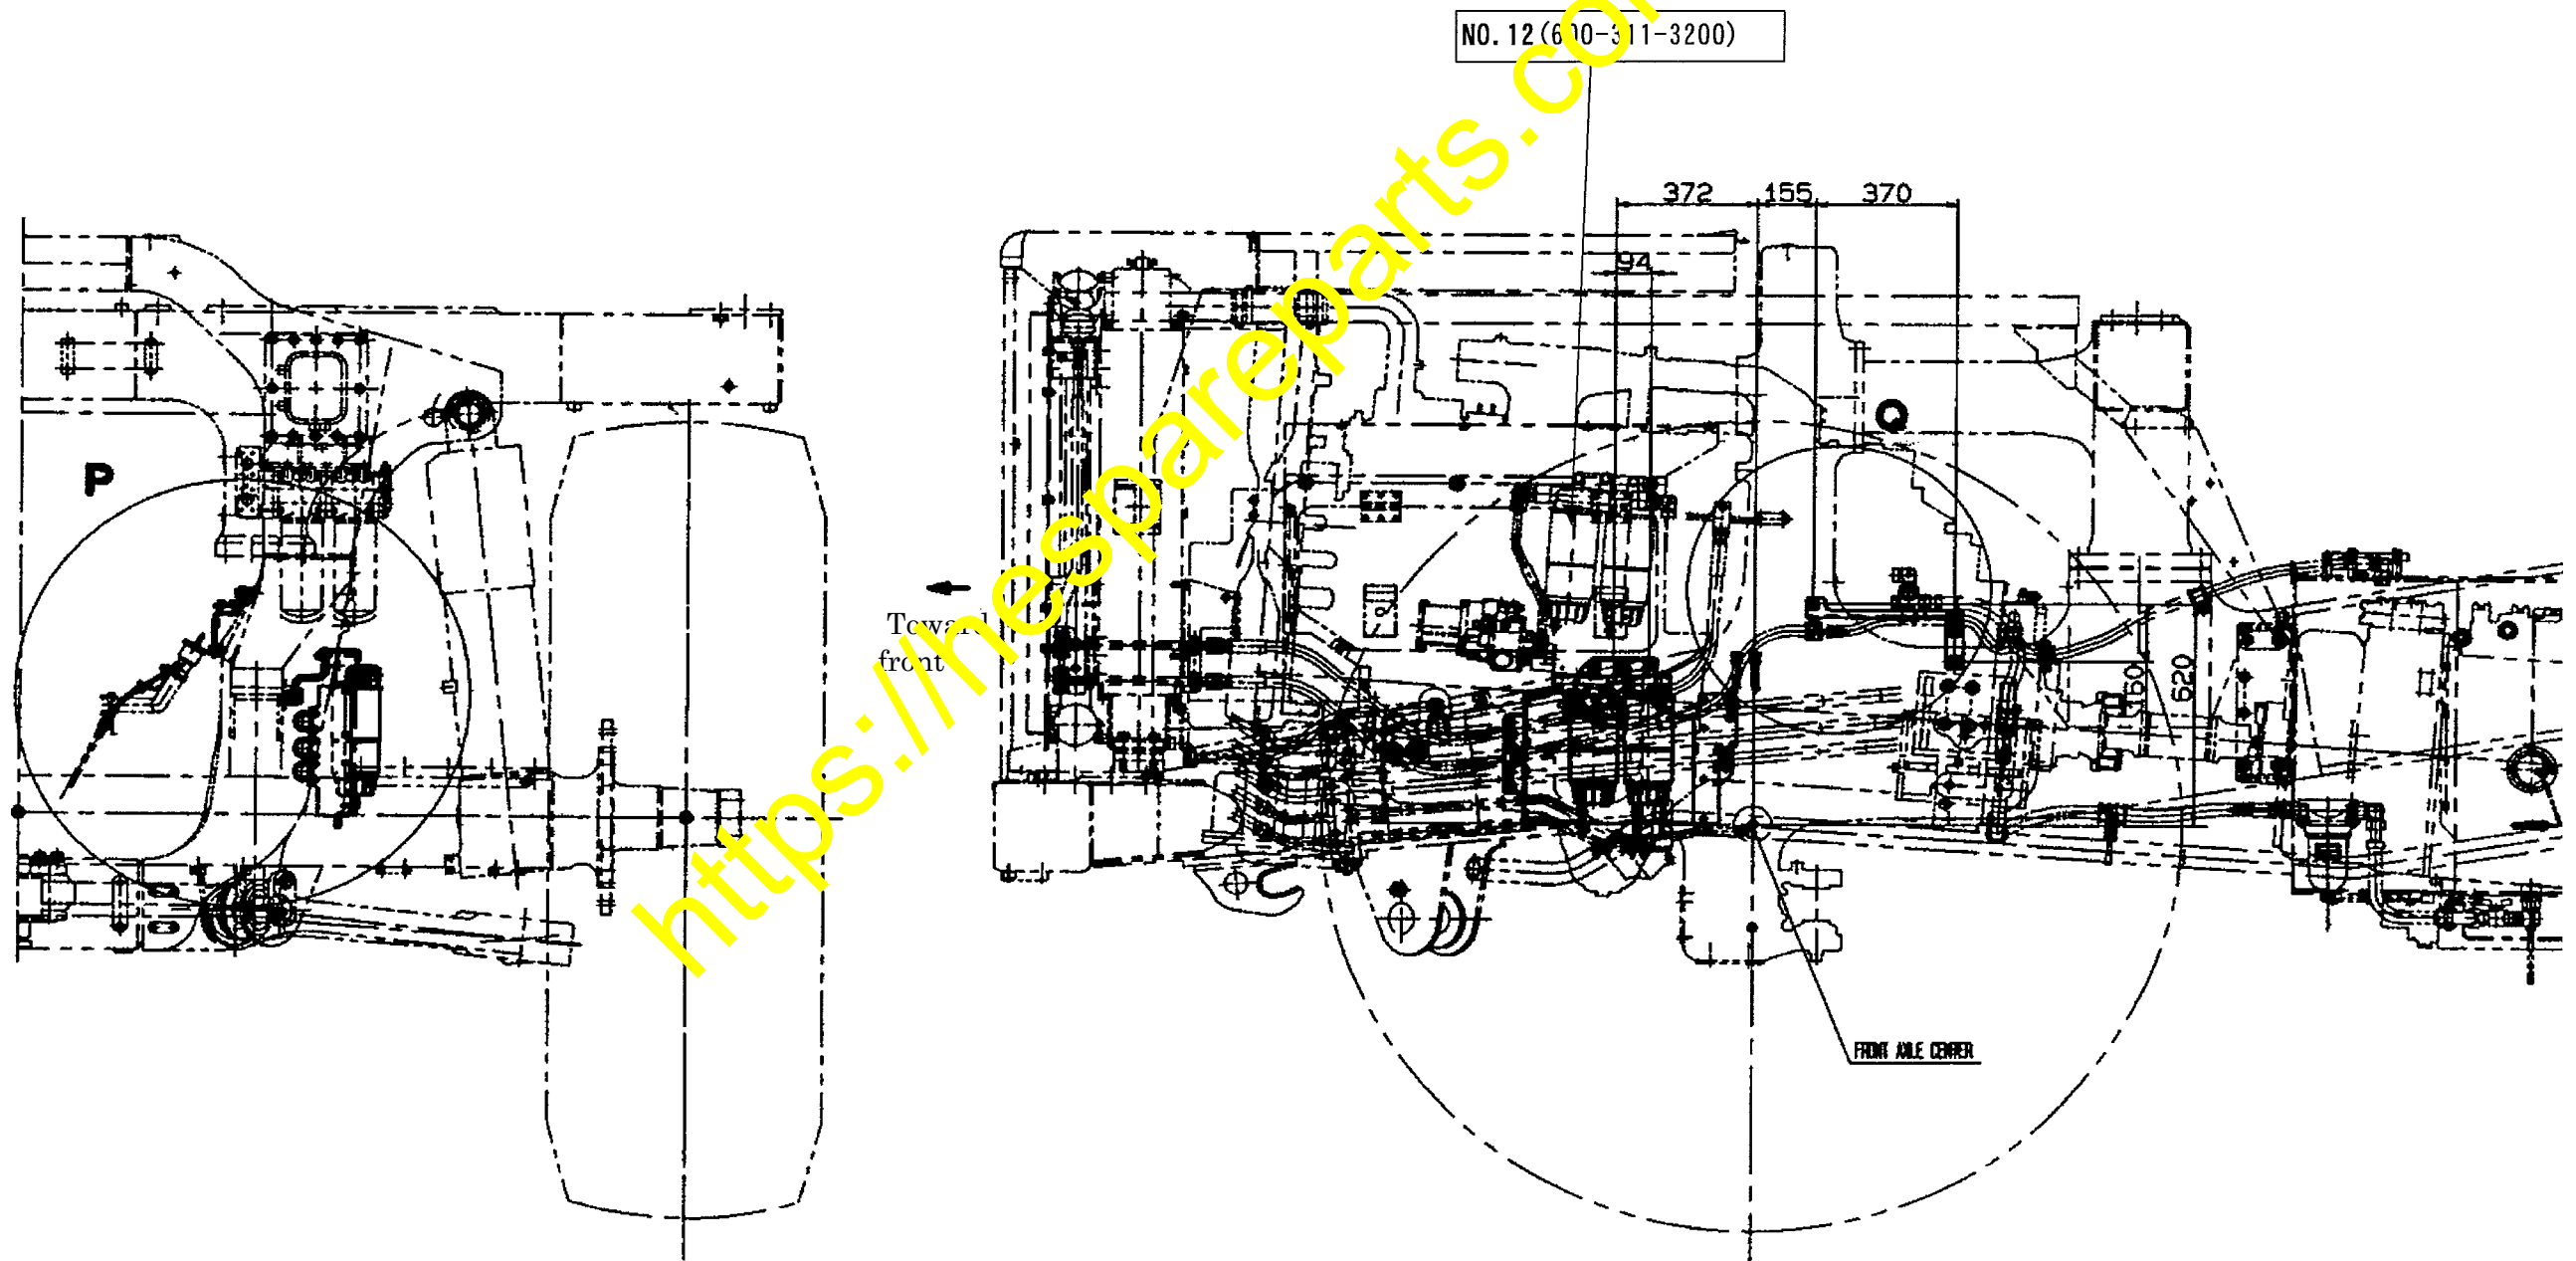
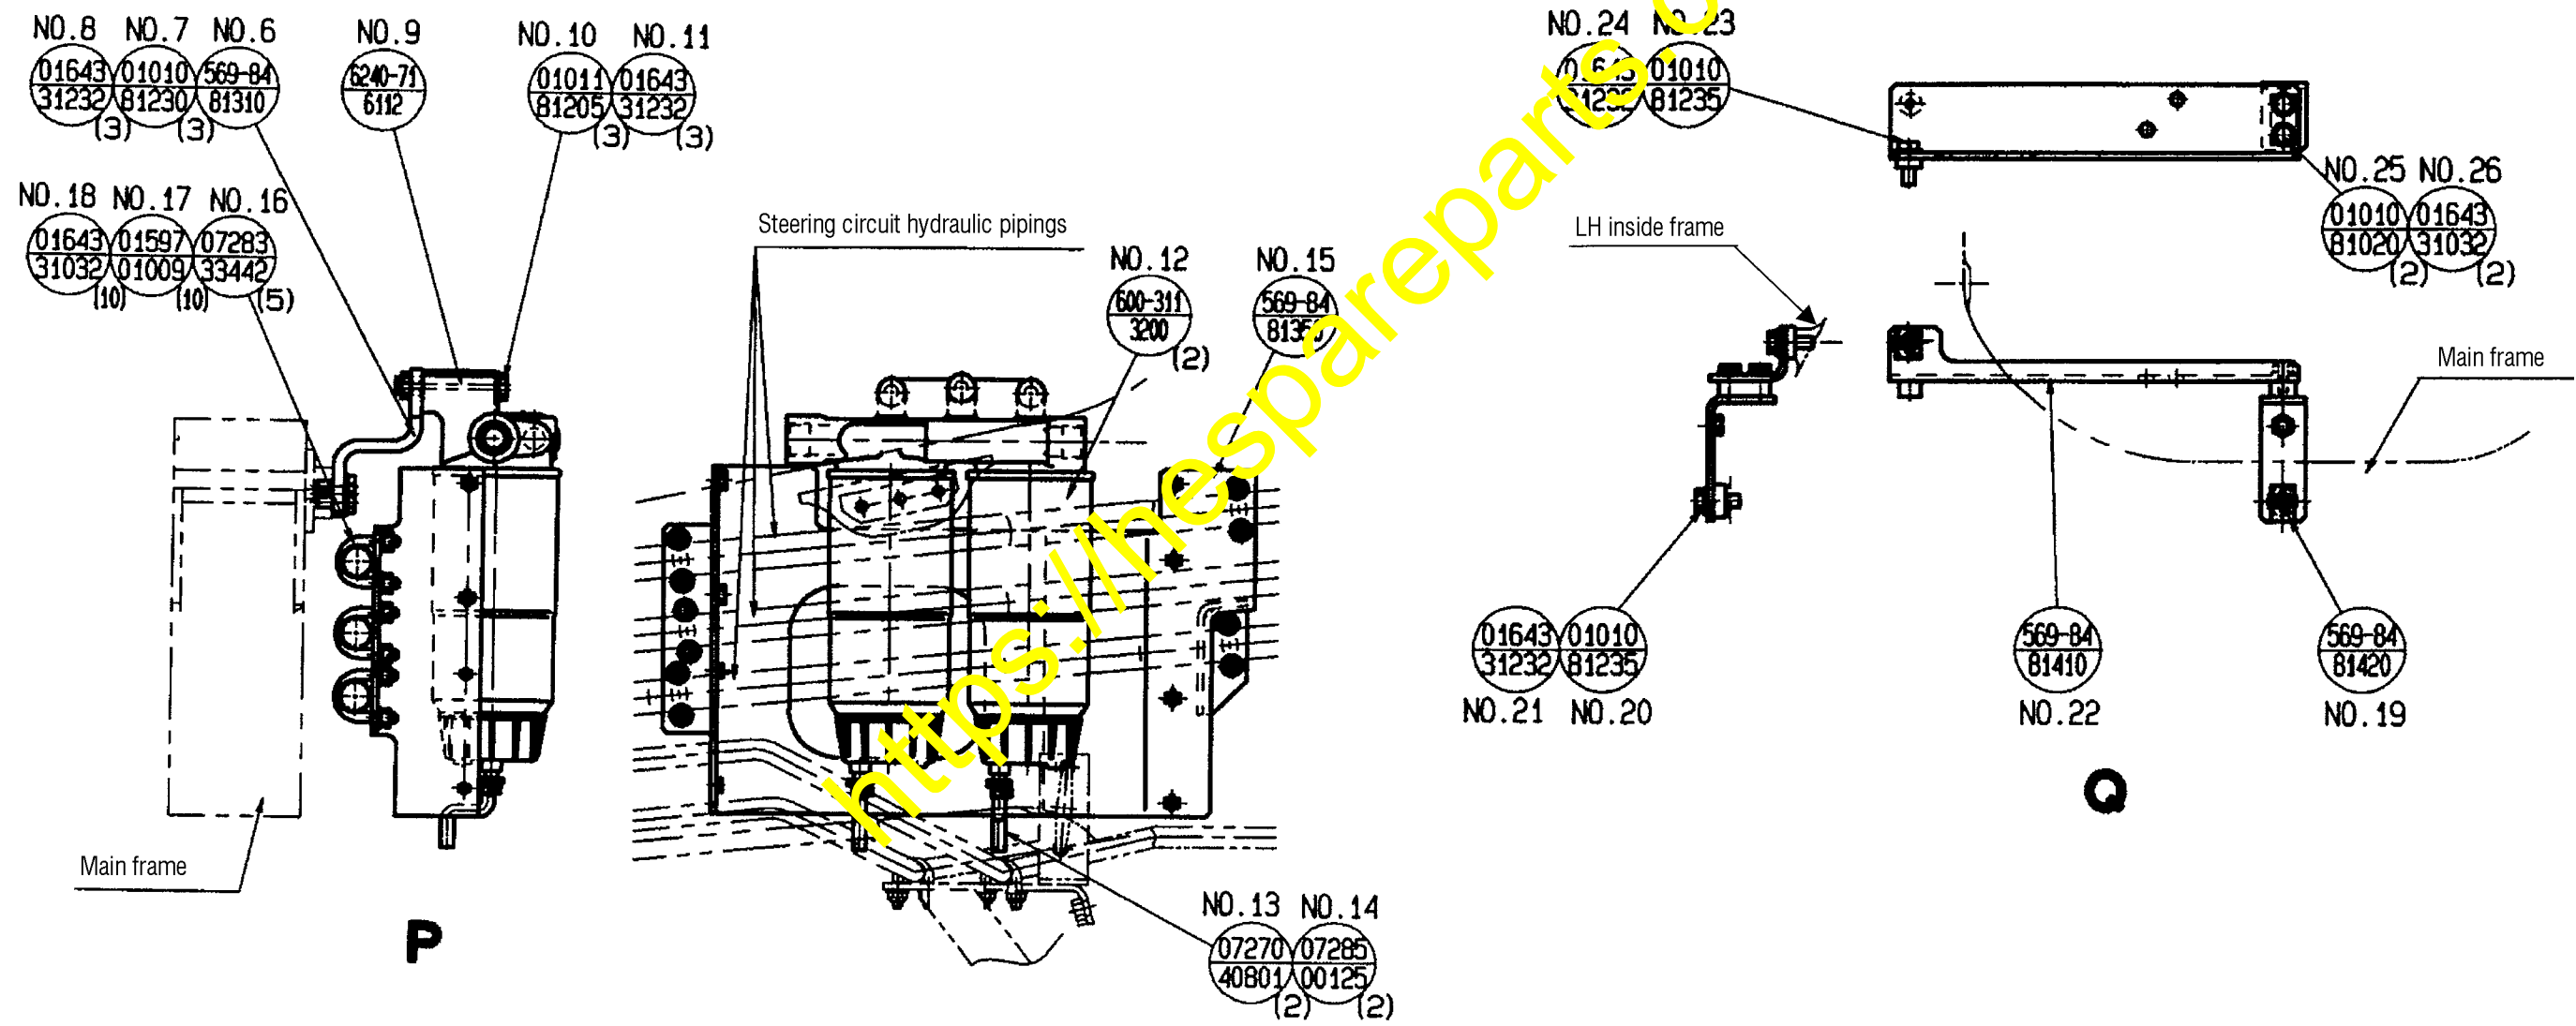

Fig. 6
Fig. 7
- Connect the front end of the new hose No. 5 (421-09-31230) to the new joint No. 27 (569-84-81341). Refer to Fig. 6 thru Fig. 9 for details.
- (7) In order to install the additional fuel filter mounting bracket related parts, remove the fuel return hose related parts.
- (8) Install the additional fuel filter mounting bracket related parts. (Refer to Fig. 6 and Fig. 7.)
- (9) Install the additional fuel filter piping related parts. (Refer to Fig. 6 thru Fig. 11.)
- (4) At this time, be careful not to forget to install the O-rings.
- (5) Among the related parts for the fuel hose ① (569-04-81210), related parts for the fuel return hose ⑤⑩ (02762-00645) and related parts for the intermediate clips of the engine harness ④① (569-06-83311), remove the parts marked Δ in the drawing shown below, and also, described in Table 2 below. After removal of these parts, install the new brackets No. 19 (569-84-81420) and No. 22 (569-84-81410) and install the reusing parts and replacing new parts as per the instructions given in Fig. 6 and Fig. 7.
- (1) Install the elbow No. 31 (6240-71-6740) to the joint No. 27 (569-84-81341) and install them to the bracket No. 22 (569-84-81410) which has been installed as per the instructions given in Fig. 7. At this time, be careful not to forget to install the O-rings (No. 28, No. 32 and No. 33).
- (2) Install the elbow No. 40 (6240-71-6740) and elbow No. 43 (6240-71-6740) to both ends of the additional fuel filter mounting bracket No. 9 (6240-71-6112) which has been installed as per the instructions given in Fig. 7.